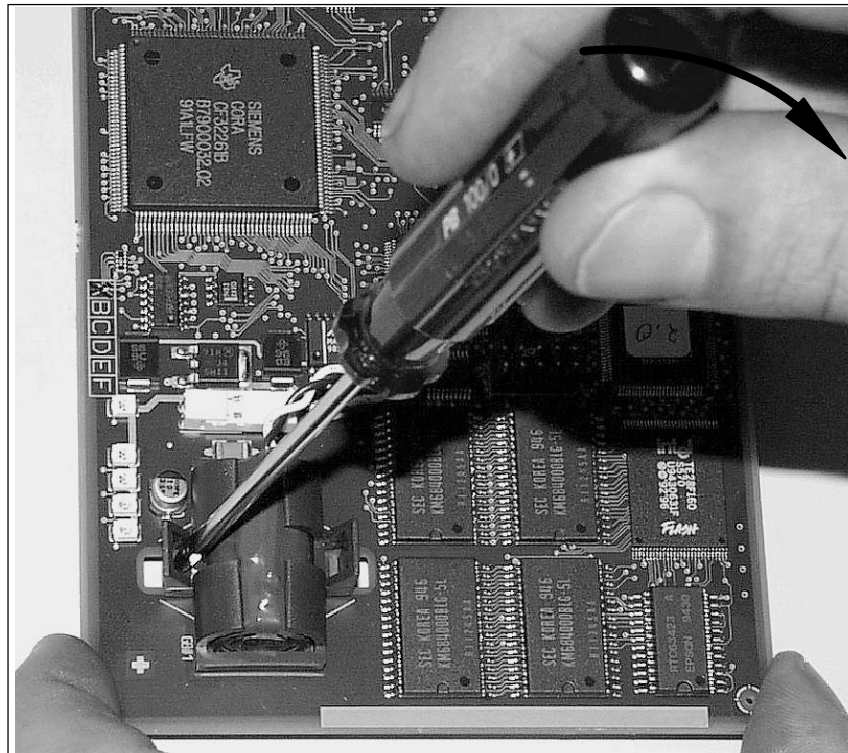

Fig. 2-4 Remove the battery receptacle
9. Remove the battery receptacle using an appropriate screw driver (see Fig. 2-4).